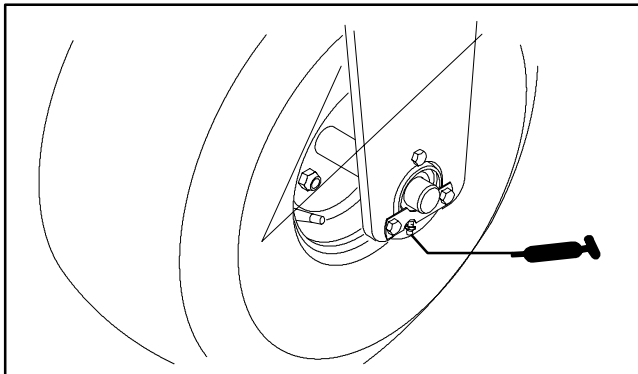
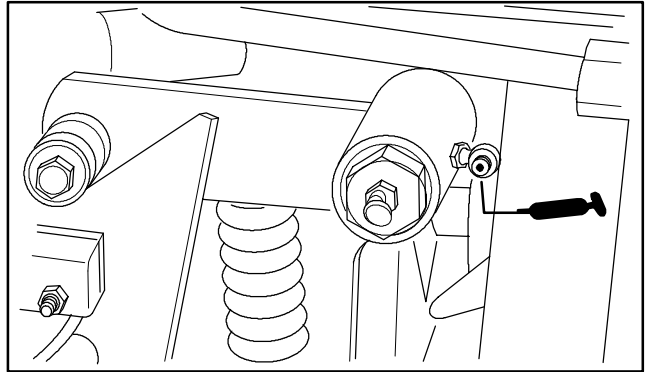
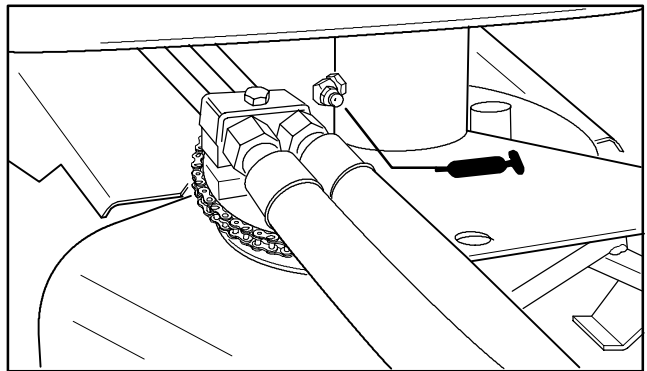

Figure 16
Figure 17
Figure 18
The bearings and bushings that must be lubricated are: front wheel bearing (Fig. 16), Traction Control Linkage (Fig. 17) and steering shaft (Fig. 18).
Note: To gain access to grease fitting on traction control linkage (Fig. 17), remove (3) screws securing side panel to right side of machine and remove panel.
Note: To gain access to grease fitting on steering shaft (Fig. 18), remove (4) screws and spacers securing fuel tank to top of machine and raise front of tank.